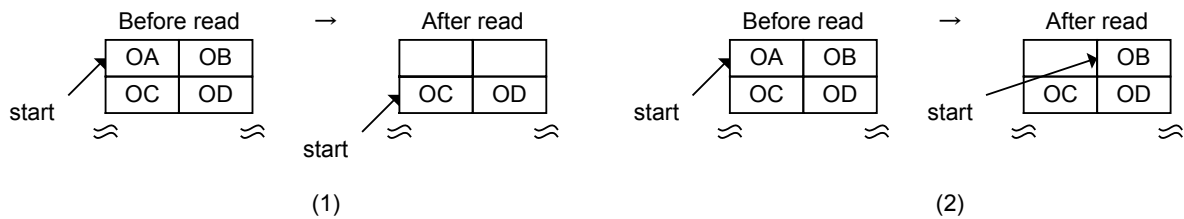

Fig. 6.74 FIFO read processing (normal operations)
The manner of how data is read wordwise when no byte boundaries exist is shown in (1) of Fig. 6.74. Data A,B and then data C,D are read each time the FIFO is accessed. The manner of how data is read byte-wise is shown in (2) of Fig. 6.74. Data A, data B, data C, and data D are read each time the FIFO is accessed. Described above are the normal read operations.